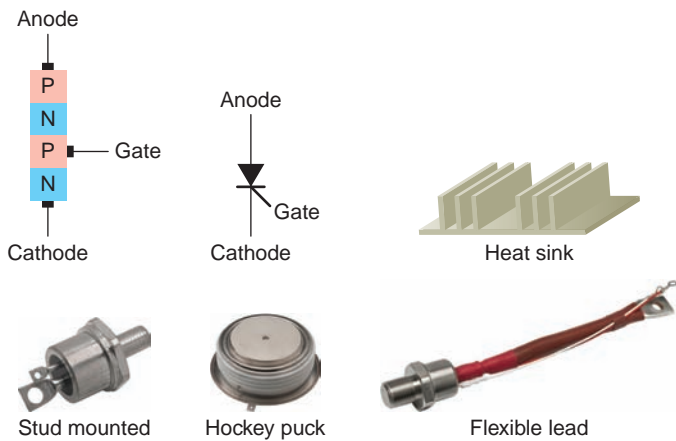

Figure 9-27 Silicon-controlled rectifier (SCR).
Silicon controlled rectifiers (SCRs) are similar to silicon diodes except for a third terminal, or gate, which controls, or turns on, the SCR. Basically the SCR is a four-layer (PNPN) semiconductor device composed of an anode (A), cathode (K) and gate (G), as shown in Figure 9-27. Common SCR case styles include stud-mounted, hockey puck, and flexible lead. SCR's function as switches to turn on or off small or large amounts of power. High-current SCR's that can handle load currents in the thousands of amperes have provisions for some type of heat sink to dissipate the heat generated by the device.